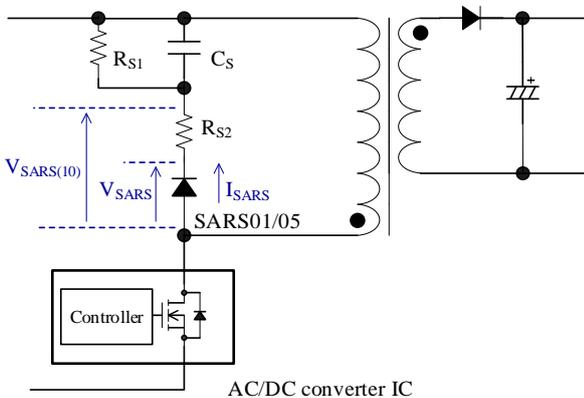
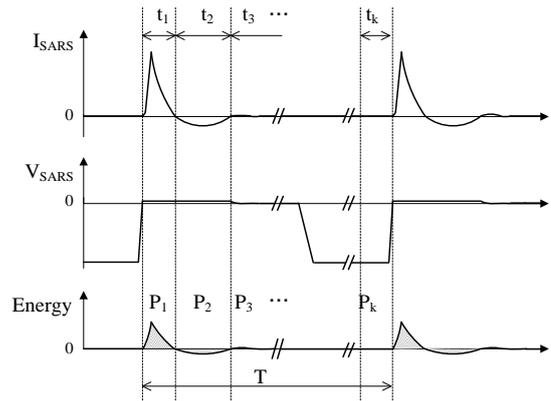

Figure 19. Typical Application
Figure 20. SARS01/05 Current
Figure 19 shows a typical application using the SARS01/05. Figure 20 shows the operating waveforms of the SARS01/05. The power dissipation of the SARS01/05 is calculated as follows:
- 2) The each average energy ( $P_1, P_2 \dots P_k$ ) is measured at period of each polarity of  $V_{SARS} \times I_{SARS}$  ( $t_1, t_2, \dots t_k$ ) as shown in Figure 19 by the automatic measurement function of the oscilloscope.
- 3) The power dissipation of the SARS01/05,  $P_{SARS}$ , is calculated by Equation (1):